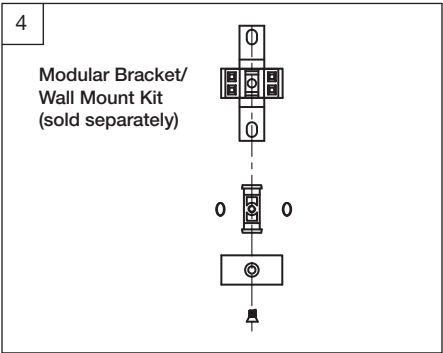

Figure 3
2. Remove plugs from plastic bag. Use PTFE tape on the threads and install securely in the ports. (See Figure 3.)